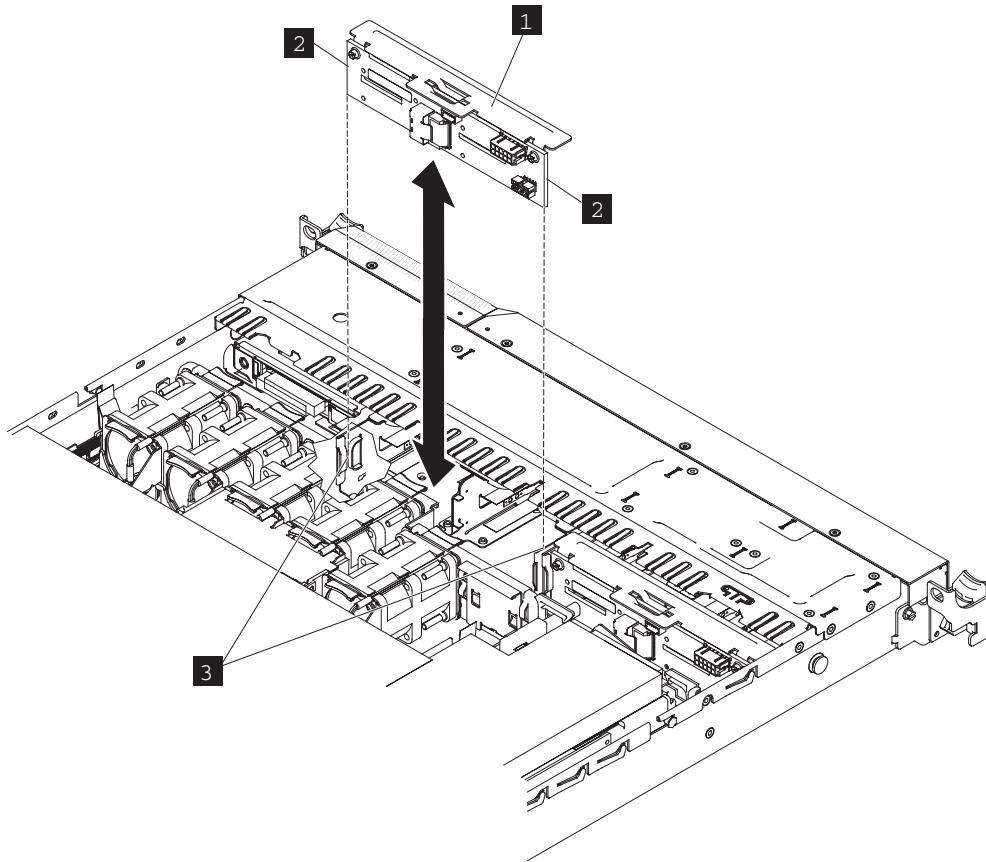

Figure 112. The 2145-CG8 boot-disk backplane
12. Lift up the disk-drive backplane (**1** in each of the following two illustrations to disengage the backplane edges (2145-CG8) or tabs (2145-CF8) (**2**) from the slots (**3**) on a backplane bracket. In the 2145-CG8 node, pull up slowly on each backplane until it is clear of the slots on the bracket and remove it from the node, as shown in Figure 112 on page 133.